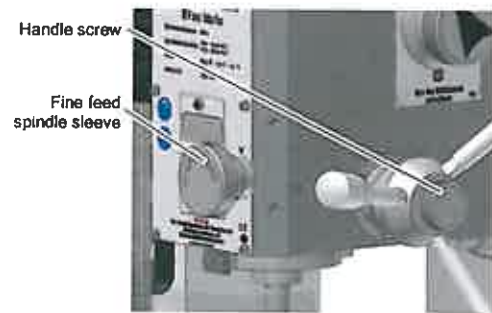

Fig.4-7: Fine feed
- Loosen the handle screw (see Fig.4-7: „Fine feed“ on page 30) .